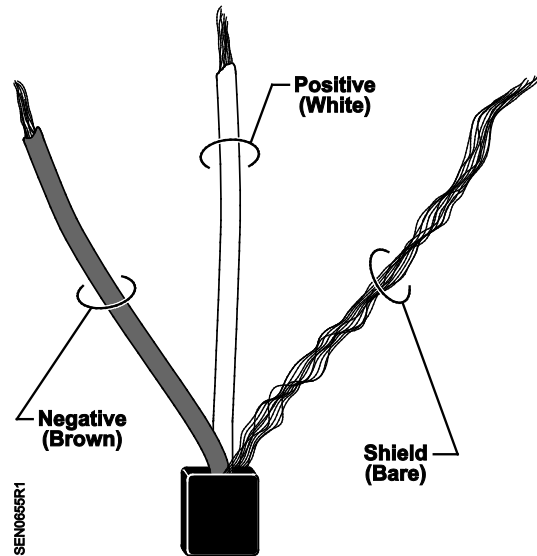

Figure 3. Connect Brown Wire to Negative (-) Terminal. Connect White Wire to Positive (+) Terminal. Connect Bare Wire to Shield (S).
5. Connect the brown wire on the CT to the negative (-) terminal on the measuring device. See Figure 3.
6. Connect the white wire on the CT to the positive terminal (+) on the measuring device. See Figure 3.
7. Connect the bare wire to the shield (S Terminal). This reduces interference and improves the accuracy of the CT. See Figure 3.